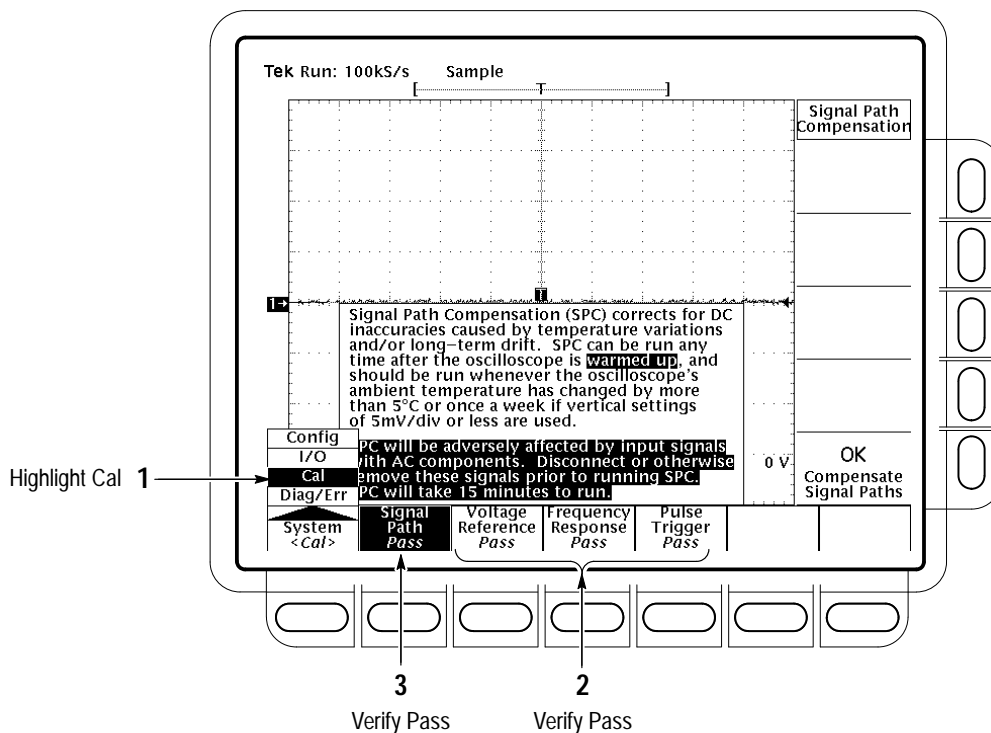

Figure 1–2: Verifying Adjustments and Signal-Path Compensation
- Highlight **Cal** in the pop-up menu by repeatedly pressing the main-menu button **System**. See Figure 1–2.
- Verify that the word **Pass** appears in the main menu under the following menu labels: **Voltage Reference**, **Frequency Response**, and **Pulse Trigger**. See Figure 1–2.
- h. *Confirm signal-path compensation returns passed status:* Verify that the word **Pass** appears under **Signal Path** in the main menu. See Figure 1–2.